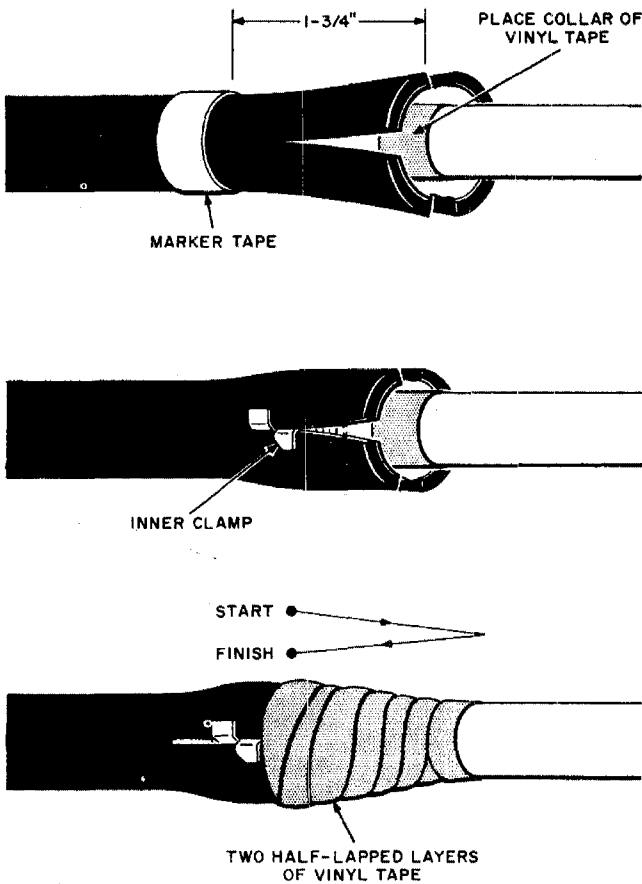

Fig. 5—Installation of Inner Sheath Clamp
4.02 Install a P-18E113 Inner Sheath Clamp on cables up to 0.6 inch in diameter and a P-18E115 Clamp on cables 0.7 through 1 inch in diameter as shown in Fig. 5. *Do not apply tape over the ears of the inner sheath clamp. Do not substitute bonding ribbon or B Bond Clips for inner sheath clamp. They do not provide adequate mechanical strength, protective grounding, or inductive noise shielding.*